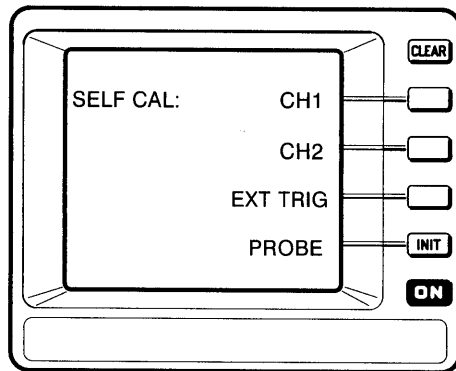

Figure 3-4: The Calibration Menu
- Step 3:** Press the menu button next to the **SELF CAL** menu item to access the calibration menu. The display now appears as shown in Figure 3-4.